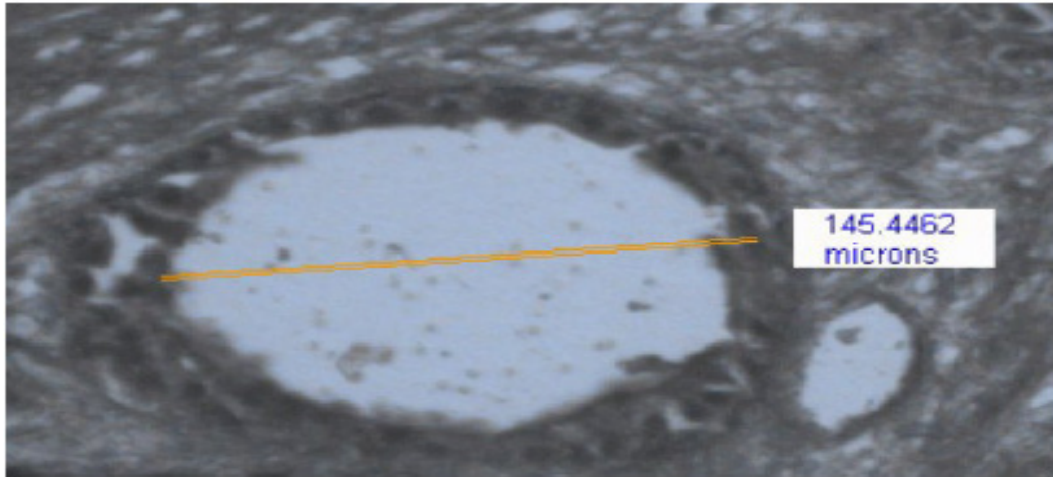

Figure 17
3. The software draws a line and displays a label showing the length of the line (see Figure 17)